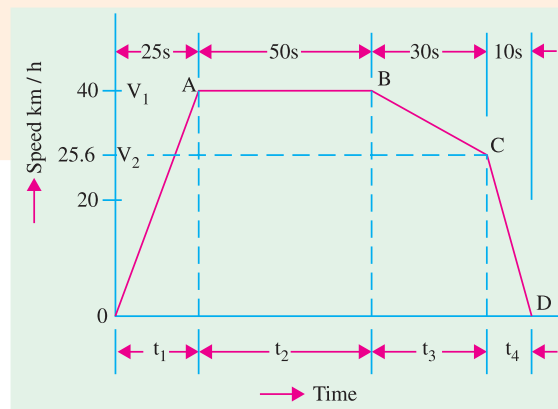

Fig. 43.16
**Solution.** As seen from Fig. 43.16,  $V_1 = \alpha \cdot t_1 = 1.6 \times 25 = 40 \text{ km/h}$